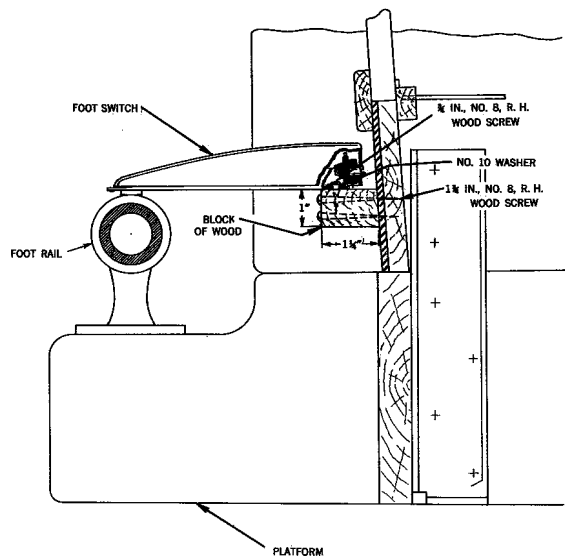

Fig. 4 — Mounting of Foot Switch in Installations Employing Platforms and Foot Rails
- (e) PBX equipped with footrail: Three 1-3/4 inch, No. 8 R.H. wood screws, two 3/4-inch No. 8 R.H. wood screws, and two No. 10 washers. See Fig. 4.
- 3.02 Typical locations for the equipment are shown in Fig. 4, 5, and 6.
- 3.03 Where footrails are provided on the PBX, the foot switch may be installed as shown in Fig. 4, using a block of wood measuring 2 by 1 by 3 inches. The rubber feet on the rear of the foot switch must be removed.